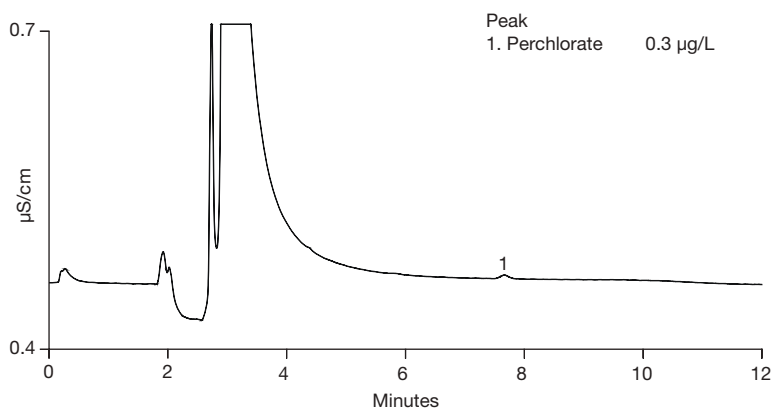
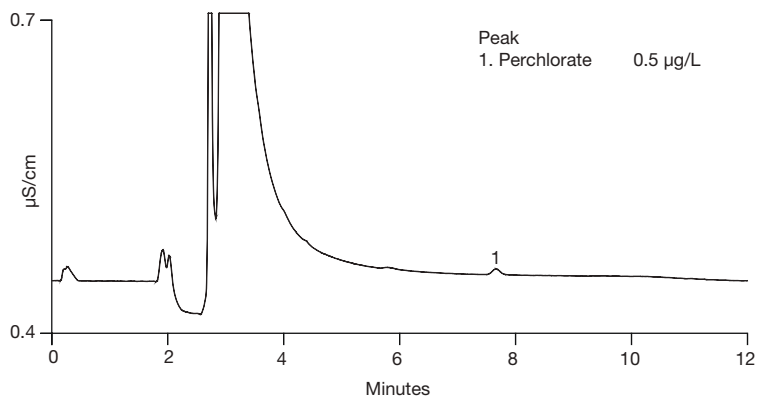

Figure 5. Determination of 0.3 µg/L perchlorate in DI water
Figure 6. Determination of 0.5 µg/L perchlorate in DI water
The MDL method is based on the standard deviation of the response. MDLs were determined by performing seven replicate injections of standards at a concentration of three to five times the estimated instrument detection limits (0.3 µg/L). The MDL was calculated as follows: $MDL = (t) \times (S)$, where t = Student's value for a 99% confidence level and a standard deviation estimate with $n-1$ degrees of freedom ($t=3.14$ for seven injections), S = standard deviation of the replicate analysis. Figure 5 shows a chromatogram of a 0.3 µg/L perchlorate standard in DI water. The calculated MDL is 0.062 µg/L, which is more than three times lower than what is reported in AU148 (0.2 µg/L). The MDL is expected to change as the ionic strength of the sample increases. Figure 6 shows a chromatogram of a 0.5 µg/L perchlorate standard in DI water. Perchlorate is more sensitively detected compared to the chromatogram of 0.5 µg/L perchlorate in AU148.